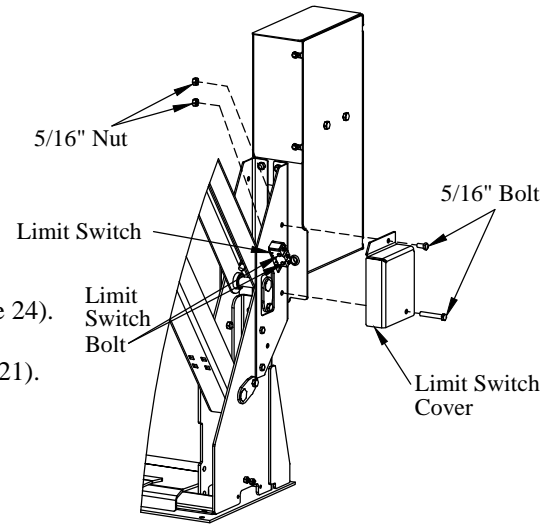

Figure 21: Limit Switch.
5. **Remove** the limit switch cover by removing two (2) 5/16" bolts and nuts (Figure 21).
6. **Loosen** the bolts holding the limit switch (Figure 21).